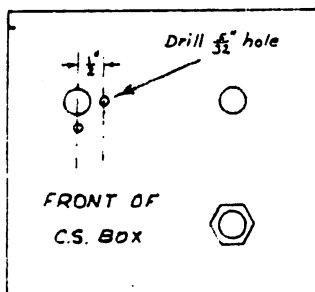

FIG. 4
- () 18. Mark and drill a 5/32 inch keyway hole in the front of the C.S. box for the PEAK VOLTS RANGE switch, as shown in Fig. 4.